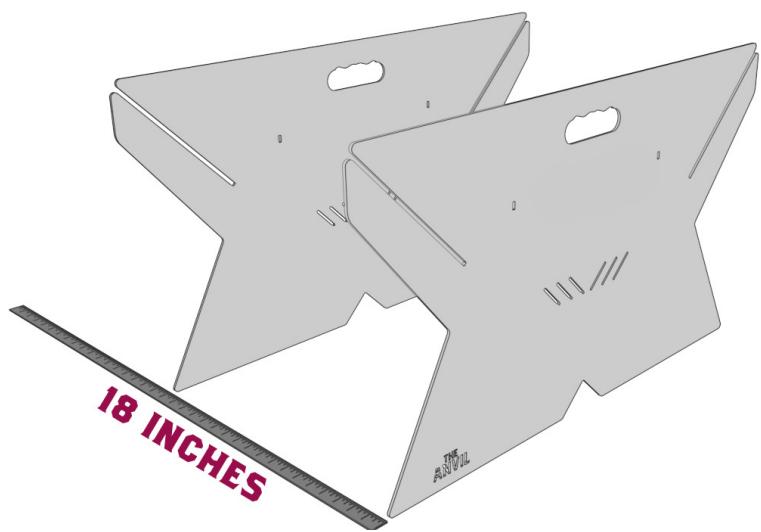

FIGURE 1
Step 1: Begin the assembly by placing the Front (FP) and Rear (RP) plates approximately 18 inches apart, as shown in Fig. 1